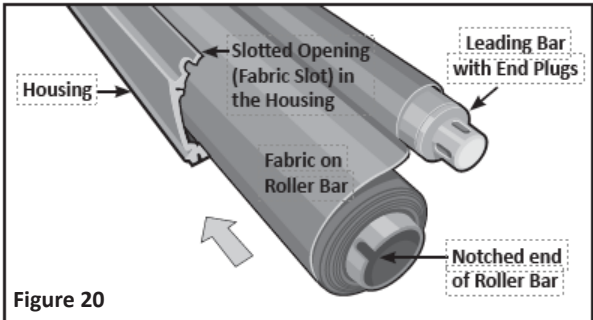

Figure 20
30. Carefully slide the non-motorized end of the roller bar and fabric into the housing until approximately six (6) inches of the roller bar still extends from the housing. The tube will lead the fabric out of the slotted opening in the housing. See Figure 20.